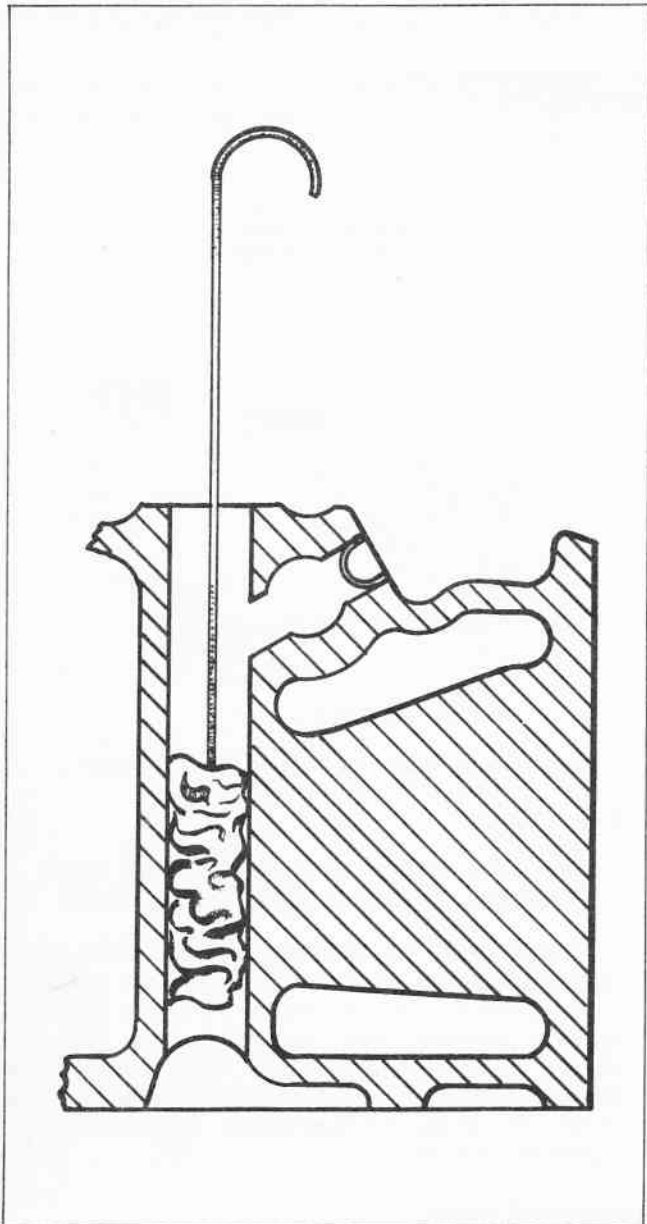

Fig. 13 Removing Oil Passage Plug
2. Attach wire to piece of rag (for removal) and push rag down into bolt hole past oil passage in which plug is located (Fig. 13).